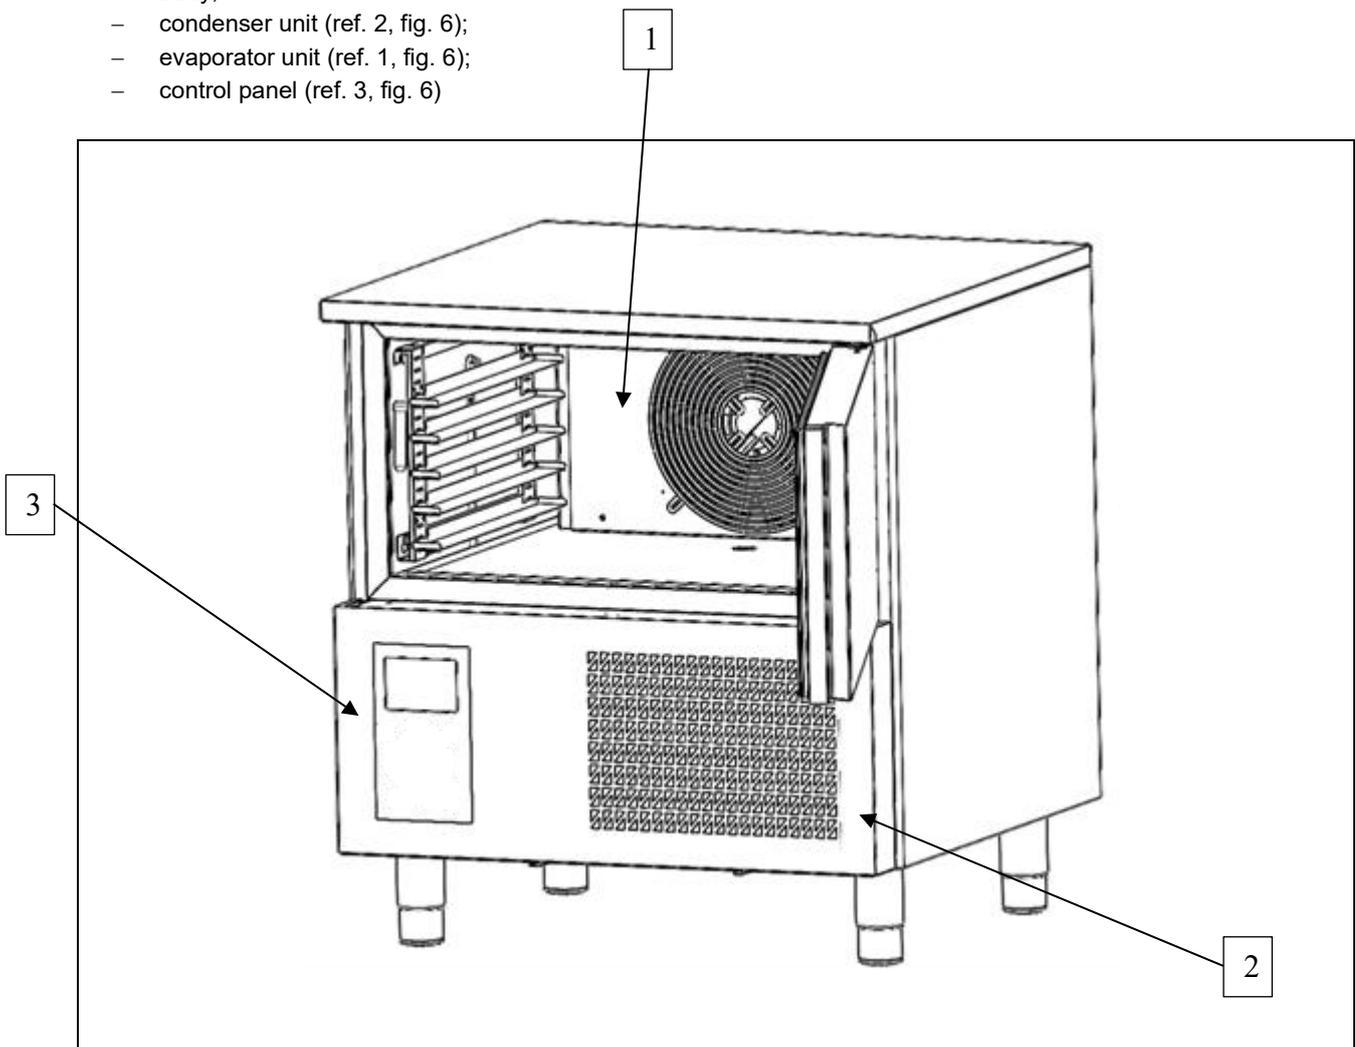

Fig. 6
- condenser unit (ref. 2, fig. 6);
- evaporator unit (ref. 1, fig. 6);
- control panel (ref. 3, fig. 6)